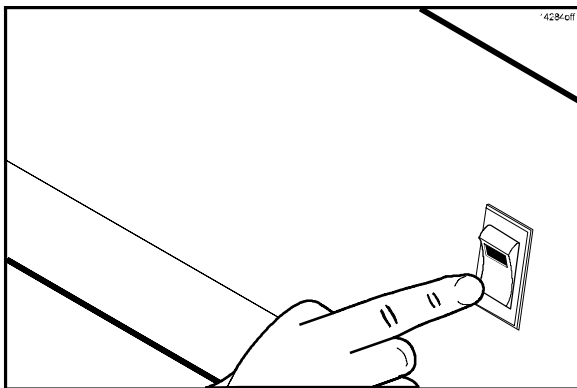

Figure 78
55. Place the fan interlock switch in the OFF position. (See Figure 78.)